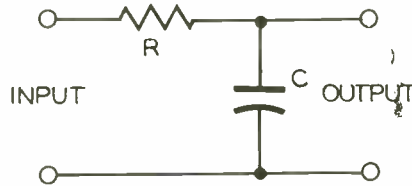

Figure 7-1. A Single-Stage Low-Pass Filter.
After the sync pulses have been separated from the composite signal they must pass through a filter network to separate the vertical and horizontal pulses. The most common method of filtering the vertical sync pulse is through the use of a low-pass filter. Figure 7-1 is representative of a single-stage low-pass filter. This network, which is known as an "integrating" circuit, consists of a series resistance (R) and a capacitance (C), with the output being taken from across the capacitance.
In order to show how the integrating network of Figure 7-1 is able to filter the vertical sync pulse from the horizontal sync pulse, the circuit in Figure 7-3A is employed. At the instant switch S1 is closed, a current begins to flow through resistance R and charges the capacitor C. The capacitor will continue to charge until its charge tends to reach the voltage of the battery. This condition will hold until switch S1 is opened and switch S2 is closed. At this time the capacitor will discharge through resistance R and switch S2.